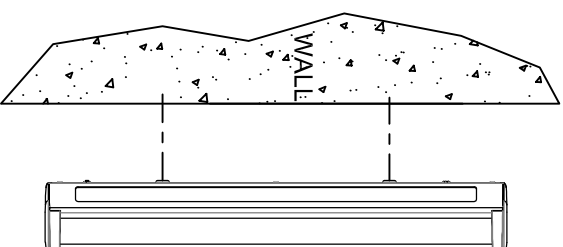

FIG. 3
5. Secure the fixture to the wall by using the appropriate mounting screw (not included). (FIG. 3)